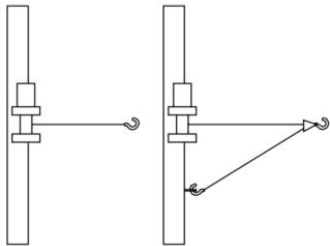

Fig. 1
2. Never overload. Be sure all equipment used meets the winch's maximum line pull rating. We recommend using the pulley block optional supplied to double line the wire rope. (See Fig. 1) Double line with a pulley block to reduce the load on the winch, wire rope and battery. When double-lining, Pulley blocks should be rated to a minimum of two times the winch's line pull rating.